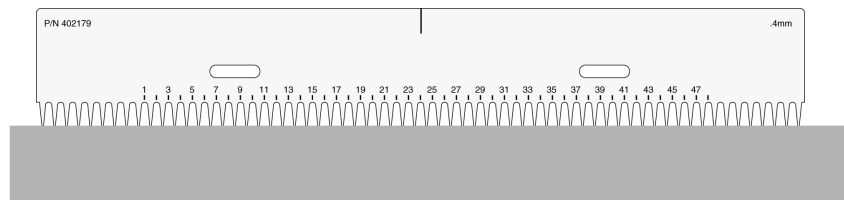

Figure 4-13. Sharks-tooth comb just touching the gel
1. Insert the sharks-tooth comb (see Figure 4-13).